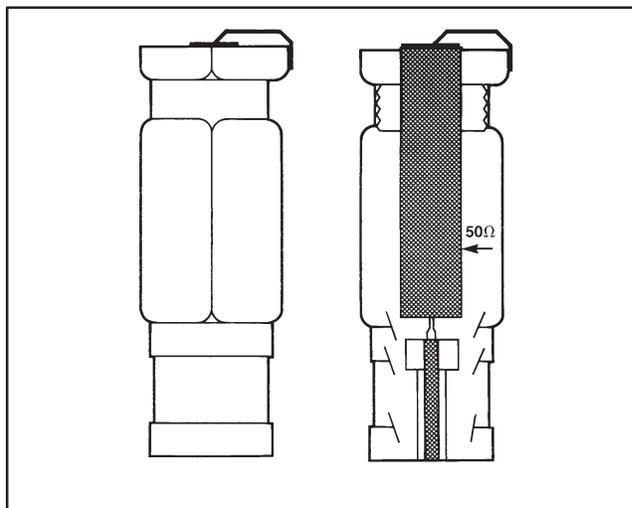

Figure 9. 50Ω Load Resistors Using Output Pin SMB Cable Connectors
- Output Measurement or Scope Connection (outside SMB connector: this is also found on every input/output pin. More than one pin may be used in this manner. Remember, if this pin is not connected to a scope and is an output, a 50Ω resistor must be connected here to ground to complete the 50Ω resistive load. Philips Semiconductors has constructed 50Ω load by soldering a high-quality (High-frequency) 50Ω resistor inside a female SMB cable connector. See Figure 9.